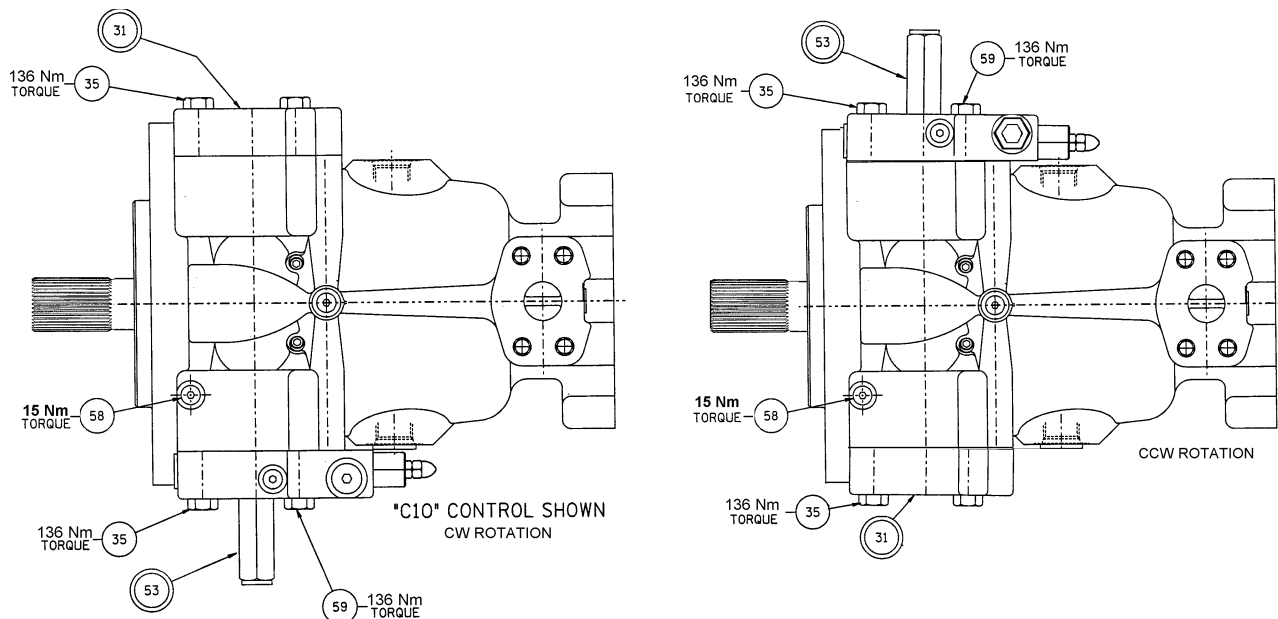

FIGURE 12
- The control caps are reversed as shown in Figure 12.